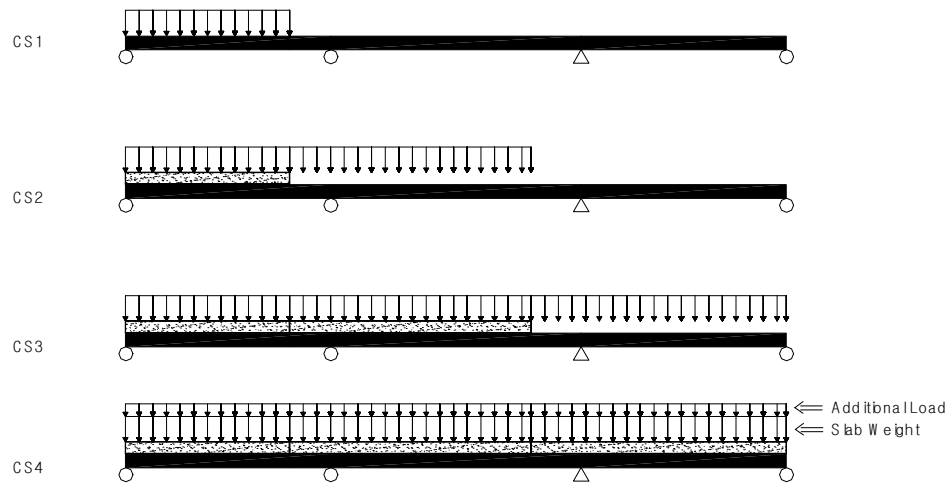

Figure 4. Slab weight and additional dead loads loaded at each construction stage
- Use the **Self Weight** command to enter the self-weight of the girder and use the **Element Beam Loads** command to enter the self-weight of the slab of CS2 section (See Figure 4).
- Use the **Element Beam Loads** command to enter the self-weight of the slab of CS3 section (See Figure 4).
- Use the *Element Beam Loads* command to enter the self-weight of the slab of CS4 section (See Figure 4).